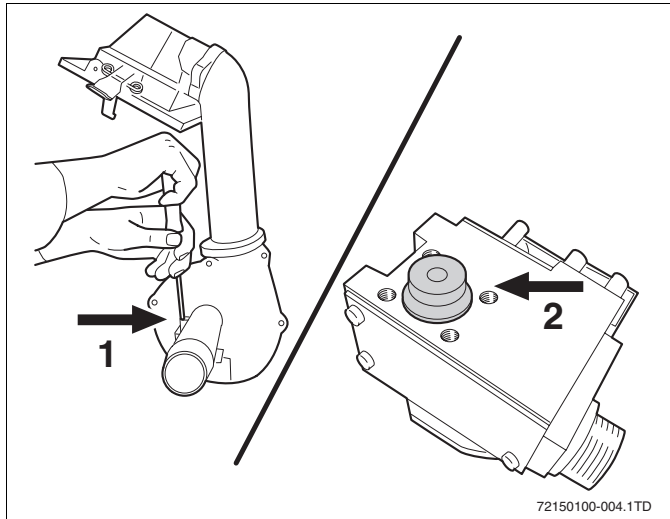

Fig. 4
- ▶ Loosen the three Phillips screws (→ fig. 4, [1]) and remove the gas valve from the fan unit.
- ▶ Remove the gas orifice (→ fig. 4, [2]).